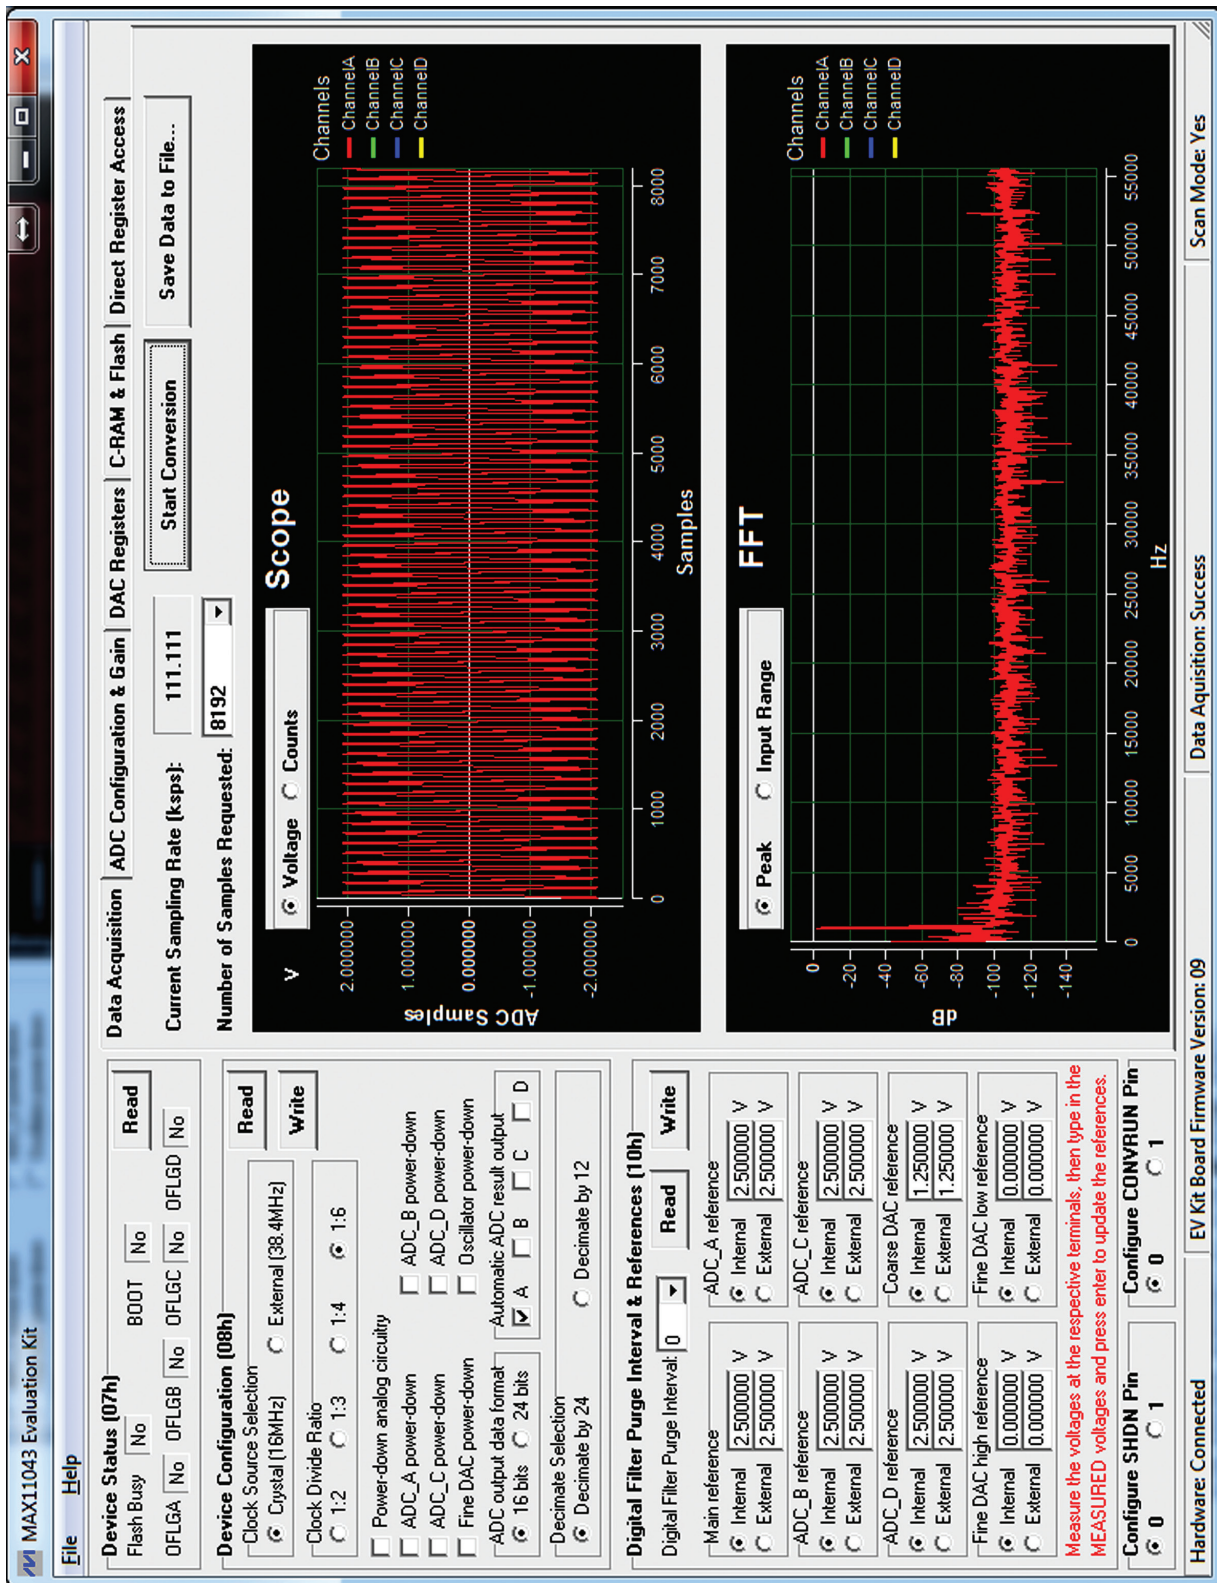

Figure 3. MAX11043 EV Kit Software (Quick Start Data Sampling Graph)
- 14) Verify that the waveform displayed in the GUI FFT graph is approximately 1000Hz, as shown in Figure 3.